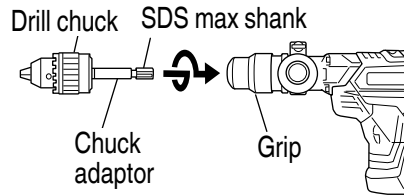

Fig. 23
2. Attach the chuck adaptor to the drill chuck. (Fig. 23)